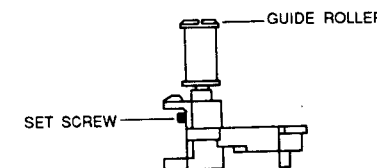

Fig. 12
6. Slightly loosen the set screw at the lower part of the S, T-guide rollers with a Hex Wrench (to be sure) so that the guide roller can be adjusted with reasonable tightness (Refer to Fig. 12).